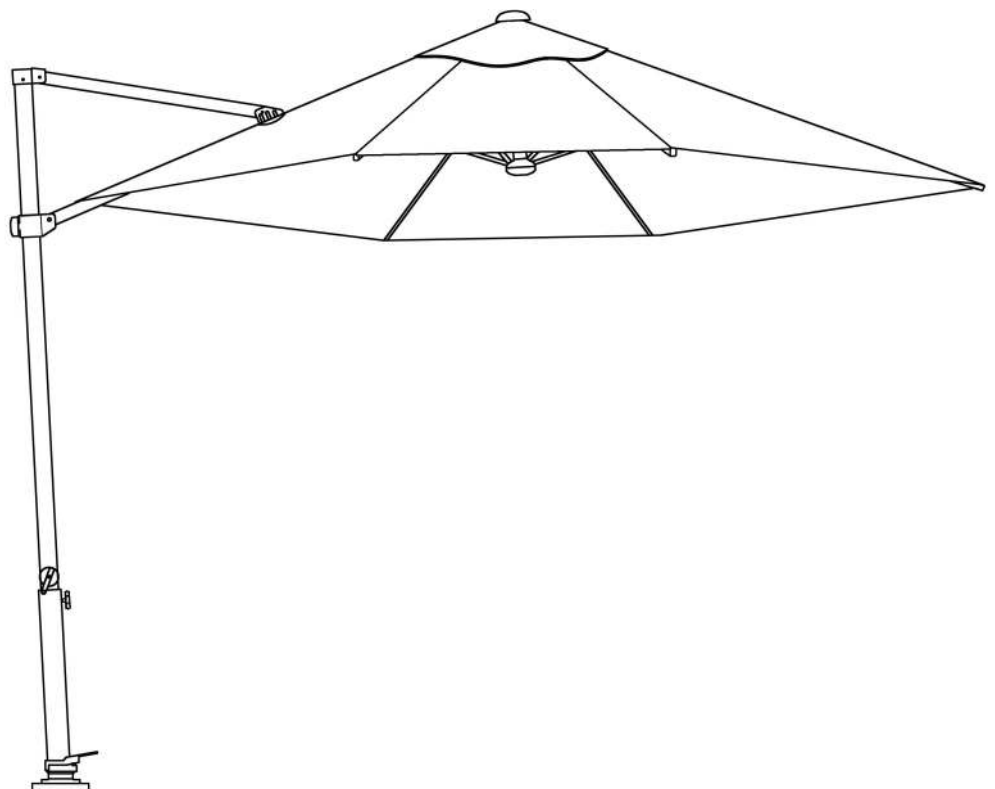

Fig 2
9. Tighten the runner locking knob in the fully raised position. See Figure 2.